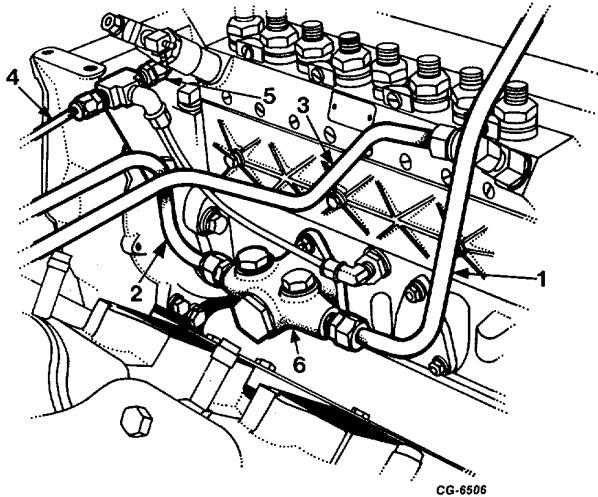

Fig. 41 Removing Fuel and Oil Lines From Injection Pump
39. Disconnect fuel supply line from transfer pump and remove (Figure 41).
40. Disconnect fuel line from transfer pump and fuel filter, remove line (Figure 41).
41. Disconnect fuel line from injection pump and primer pump, remove line (Figure 41).
42. Disconnect oil feed lines from tee fitting (line coming from oil filter base and oil feed line for air compressor or vacuum pump) (Figure 41).